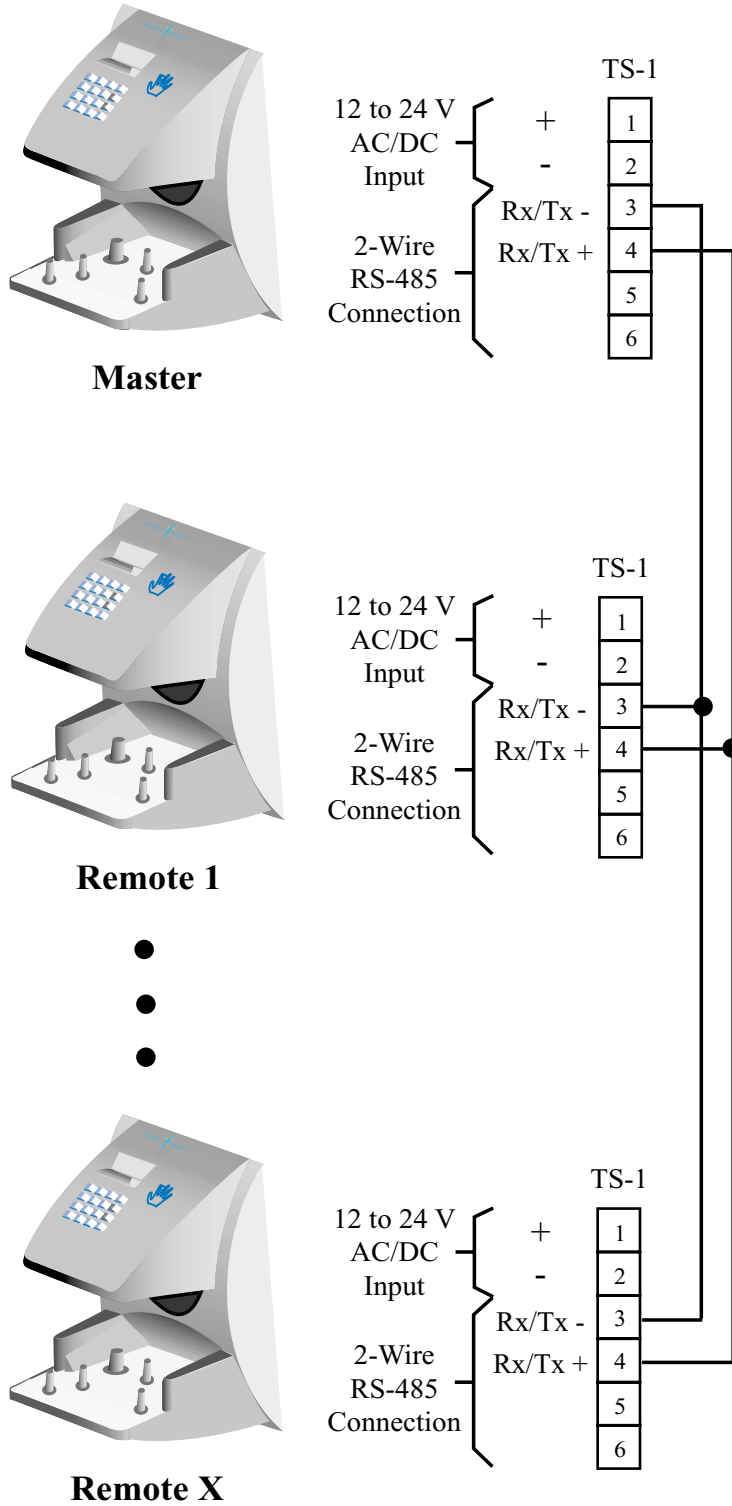

Figure 5-8: RS-485 2-Wire Master/Remote Network System Wiring Diagram
- Figure 5-8 on page 33 provides a typical RS-485 2-Wire Master/Remote Network System wiring diagram.